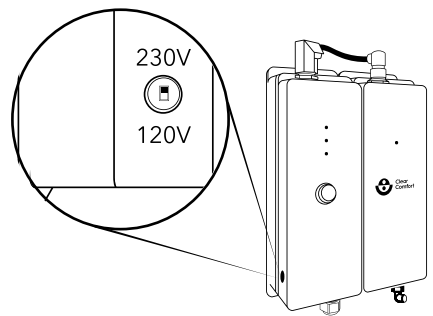

Figure 4: Ballast Electrical Switch
4. Set the ballast switch on V2.1 Control Unit: Remove plug in the left side of the Control Unit. With a small screwdriver, slide the switch down into the 120V position, according to the Control Unit label. Re-install the plug. See Figure 4.